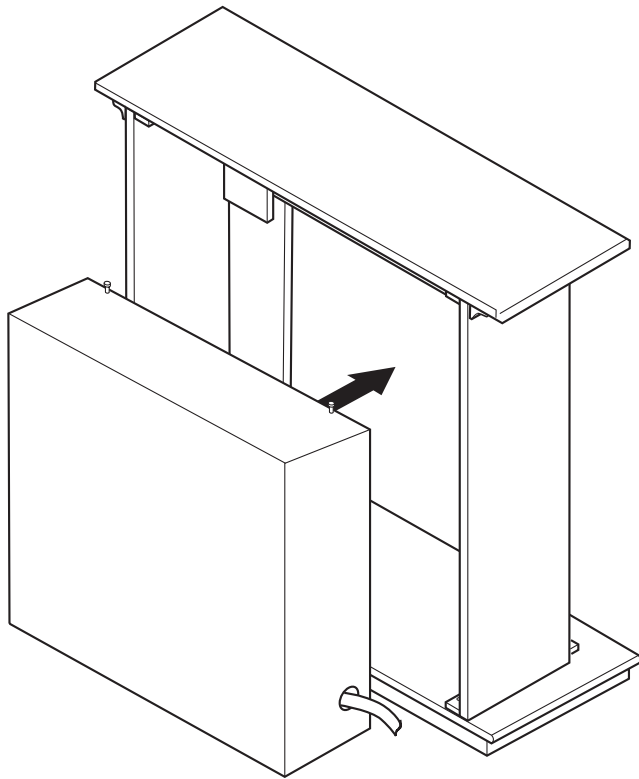

Figure 5 - Installing Gas Fireplace
5. Position fireplace inside mantel (see Figure 5). Carefully position gas lines. **IMPORTANT:** Use caution when positioning fireplace on base. Base may scratch easily. Make sure fireplace is in proper position within mantel opening before continuing with installation.